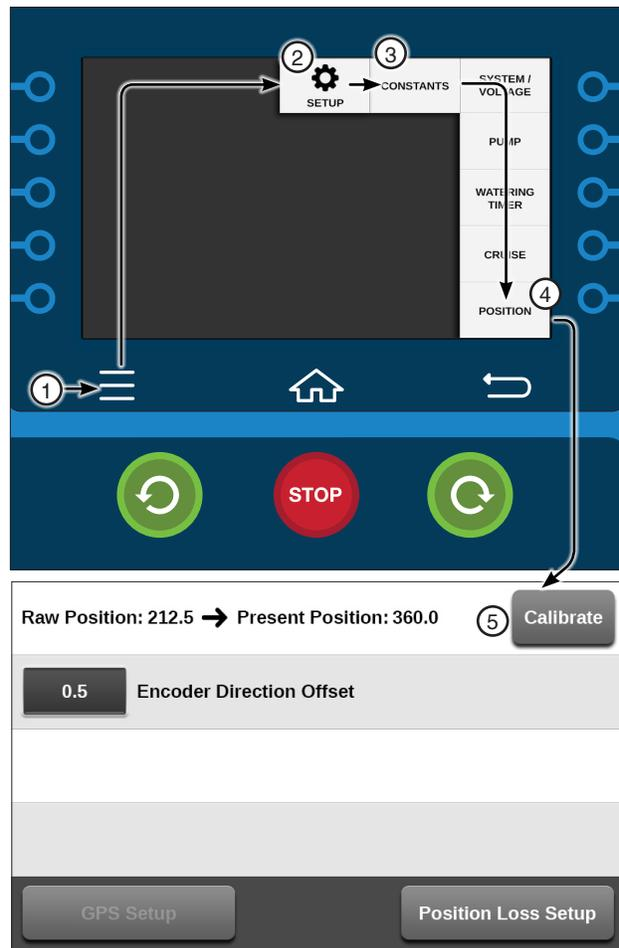

Figure 34-1 1. Menu 2. Setup 3. Constants 4. Position 5. Calibrate
1. Push **Menu**, **Setup**, **Constants** and **Position** to display the Position screen. Refer to Figure 34-1.